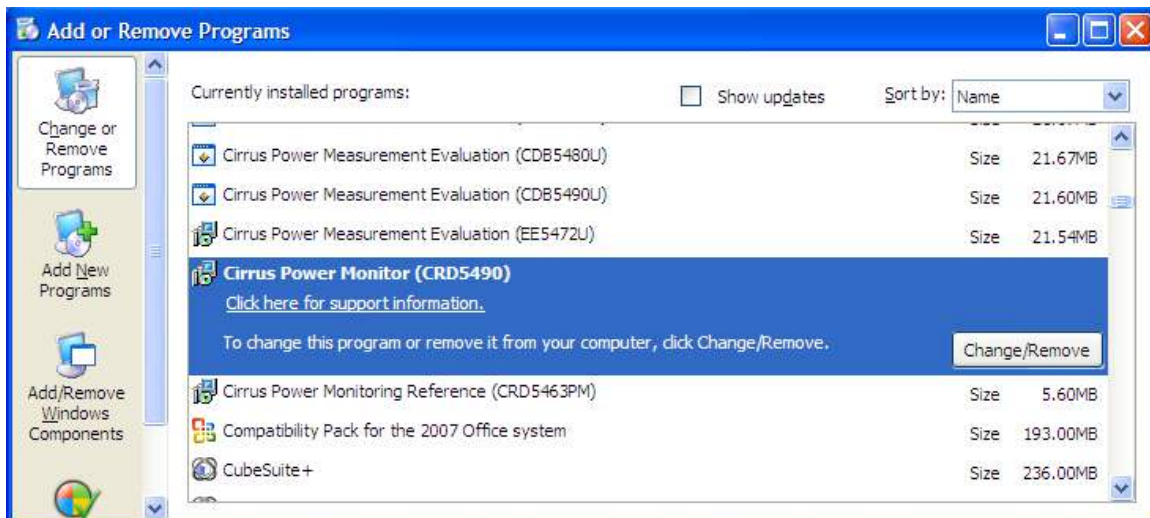

Figure 28. Add or Remove Programs with Cirrus Power Monitor (CRD5490) Displayed
3. Highlight to select the **Cirrus Power Monitor (CRD5490)** item, as shown in Figure 28.